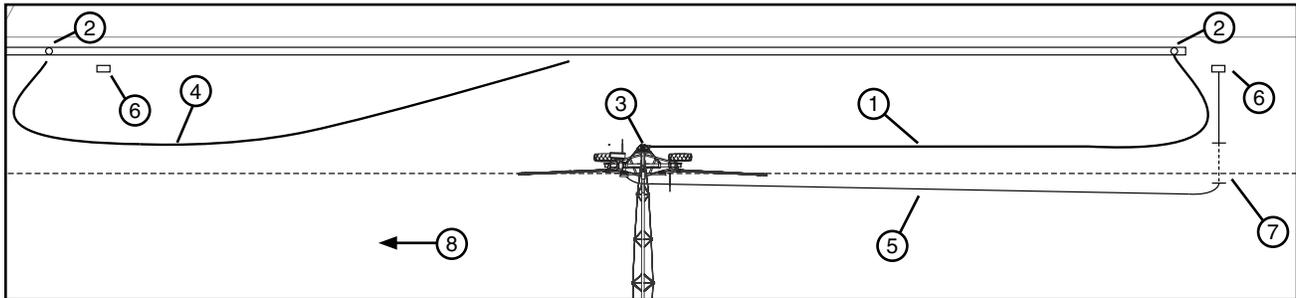

Figure 50-1 1. First Hose
18. When the machine reaches the end of field/hose stop. Close the water shut off valve for the first hose. See Figure 50-1.